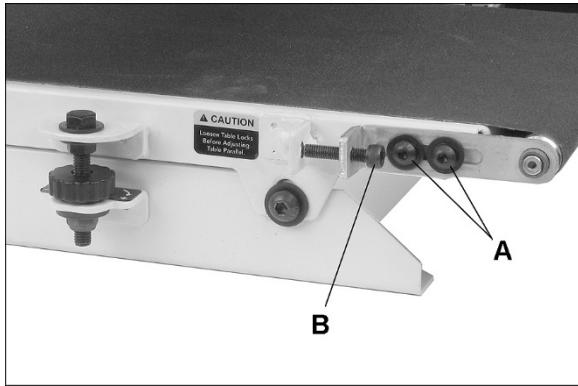

Figure 8-2: belt tension adjustment
1. Slightly loosen four screws (A, Figure 8-2) on infeed side of conveyor, with 4mm hex wrench (two screws on each side).
2. Turn take-up screw (B, Figure 8-2) with 5mm hex wrench. Do this on *both sides* of conveyor to obtain approximately equal tension on both sides of sanding belt when taut.
3. Tighten four screws (A, Figure 8-2).
3. If conveyor drifts, slightly loosen two screws (A, Figure 8-2) and turn take-up screw (B, Figure 8-2) on *one side* of conveyor as needed.
4. When adjustment is satisfactory, tighten two screws (A, Figure 8-2).